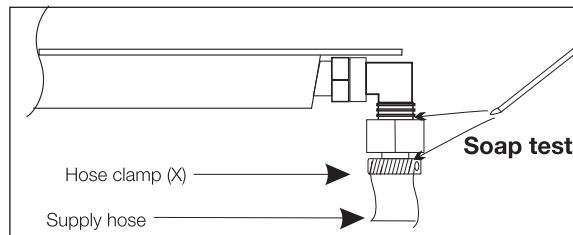

Fig 8
The supply hose must be visible for its entire length (max. one meter) and must be secured with a hose clamp X (Fig 8). The sealing washer must be fitted.
- Apply soapy solution to each joint. (Figure 8)